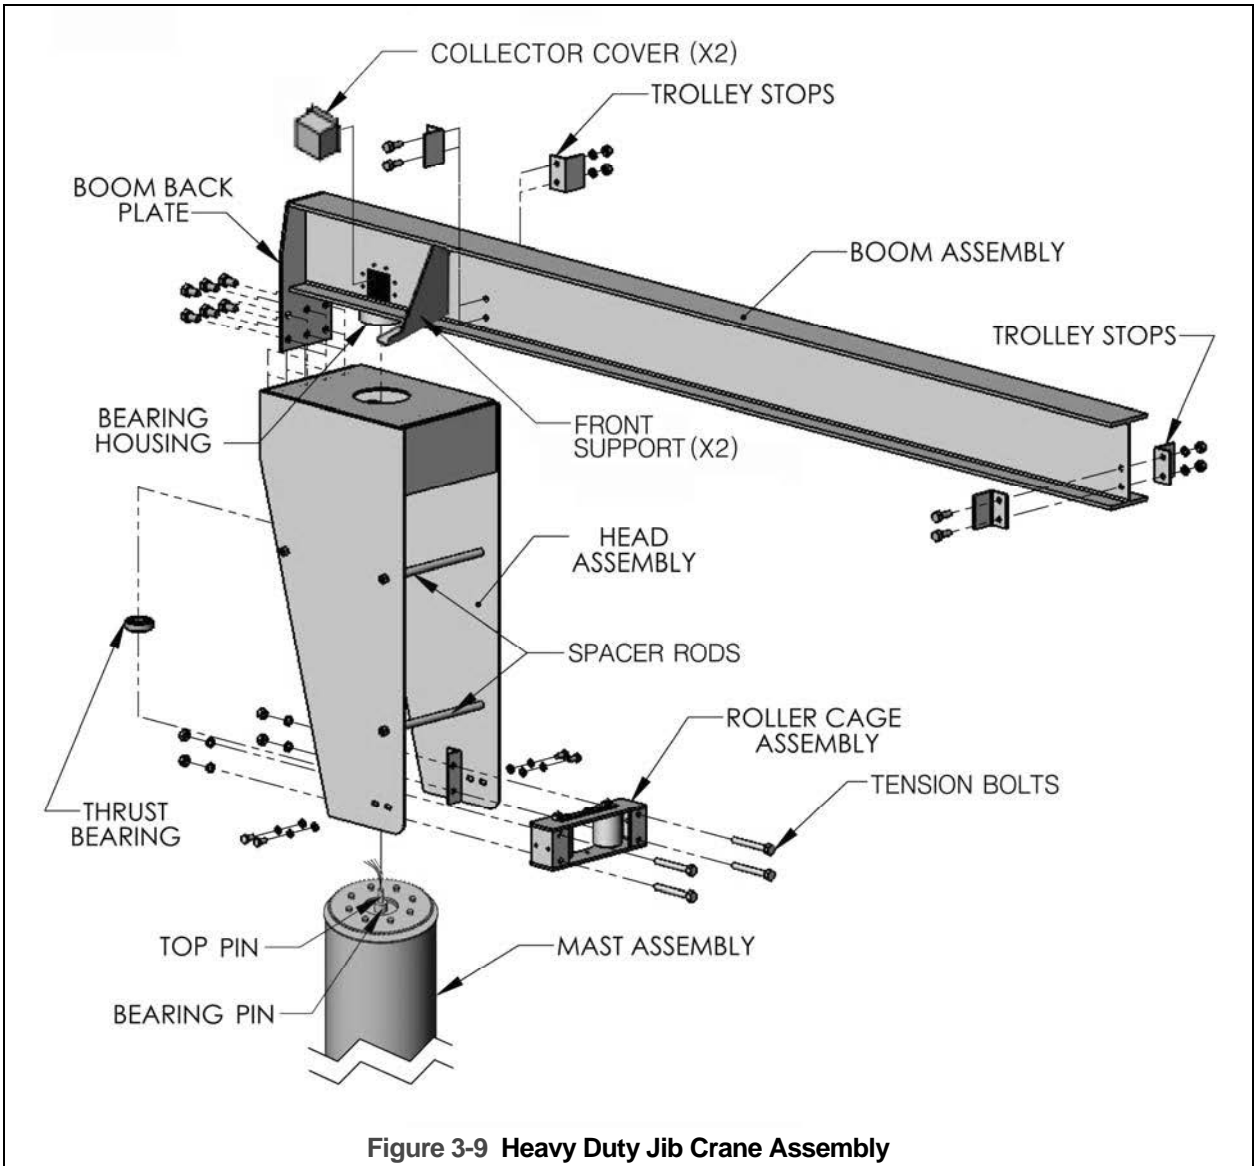

Figure 3-9 Heavy Duty Jib Crane Assembly
- 3.3.1 Reference **Figure 3-9** for general assembly layout. Reference Jib Crane Drawing for bolt sizes and locations.
- 3.5.3 Bolt two inner TROLLEY STOPS to BOOM (see **Figure 3-9**). Slide Hoist/Trolley onto BOOM, then bolt two remaining TROLLEY STOPS to BOOM.
- 3.6.1 Refer to Figures 3-9, 3-11, and 3-12.